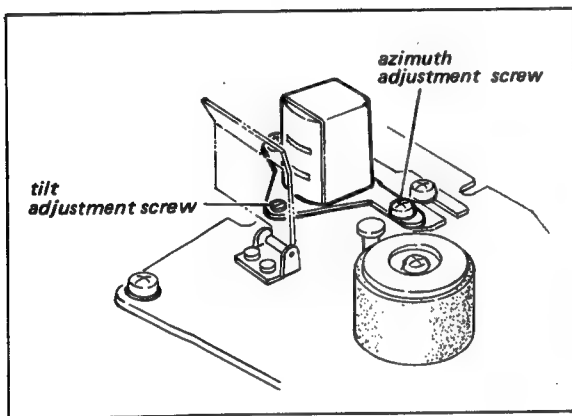

Fig. 7-1. Audio/CTL head azimuth and tilt adjustments
3. Adjust the Azimuth and Tilt Adjusting Screws shown in Fig. 7-1 for maximum output.